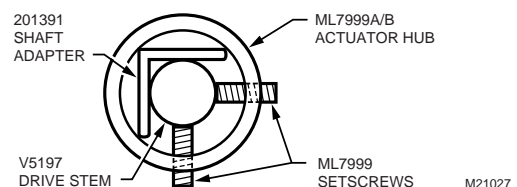

Fig. 17. Proper positioning of 201391 shaft adapter and V5197 drive shaft.
2. Secure the actuator to the mounting bracket using a bolt, nut and locking washer. See Fig. 17.
5. Tighten the hub setscrews against the shaft to a torque of 60 in-lb (69 kg-cm). See Fig. 17.